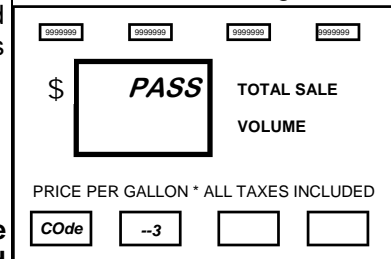

Figure 3.2
3. Press the **ENTER** button. When access is gained, the dashes disappear and the price display appears as in Figure 3.2. If the dashes do not appear, the access code entered did not match the code stored in memory. Press the **CANCEL** button and repeat steps 1, 2, and 3.
3. Press the **ENTER** button. If access is gained, the four dashes disappear and the PPV display appears as in Figure 3.2. If the dashes do not move, an error was made entering the access code. Repeat steps 2, 3, and 4.
5. Press the **ENTER** button. If access is gained, the four dashes disappear and the main price display appears as in Figure 3.2. If the dashes do not appear, an error was made. Repeat Steps 1 through 4.